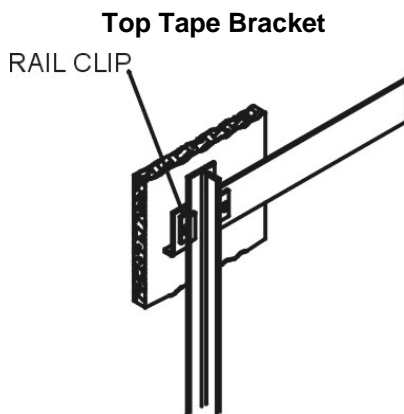

Figure 1-23
- Mount top tape support bracket on the main guide rail high enough so that the car, sitting on a compressed counterweight buffer, would not strike the bracket. (formula: CWT runby + CWT buffer stroke + ½ gravity stopping distance + 6"). [See Figure 1-23.]